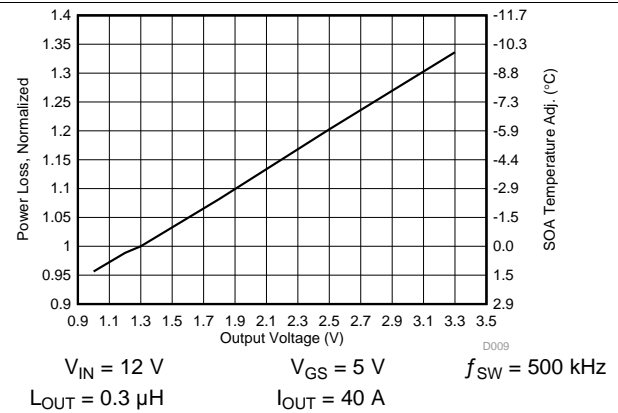

Figure 8. Normalized Power Loss vs Output Voltage
- Normalized Power Loss for output voltage ≈ 0.95 (Figure 8)
- SOA adjustment for output voltage $\approx -1.3^\circ\text{C}$ (Figure 8)